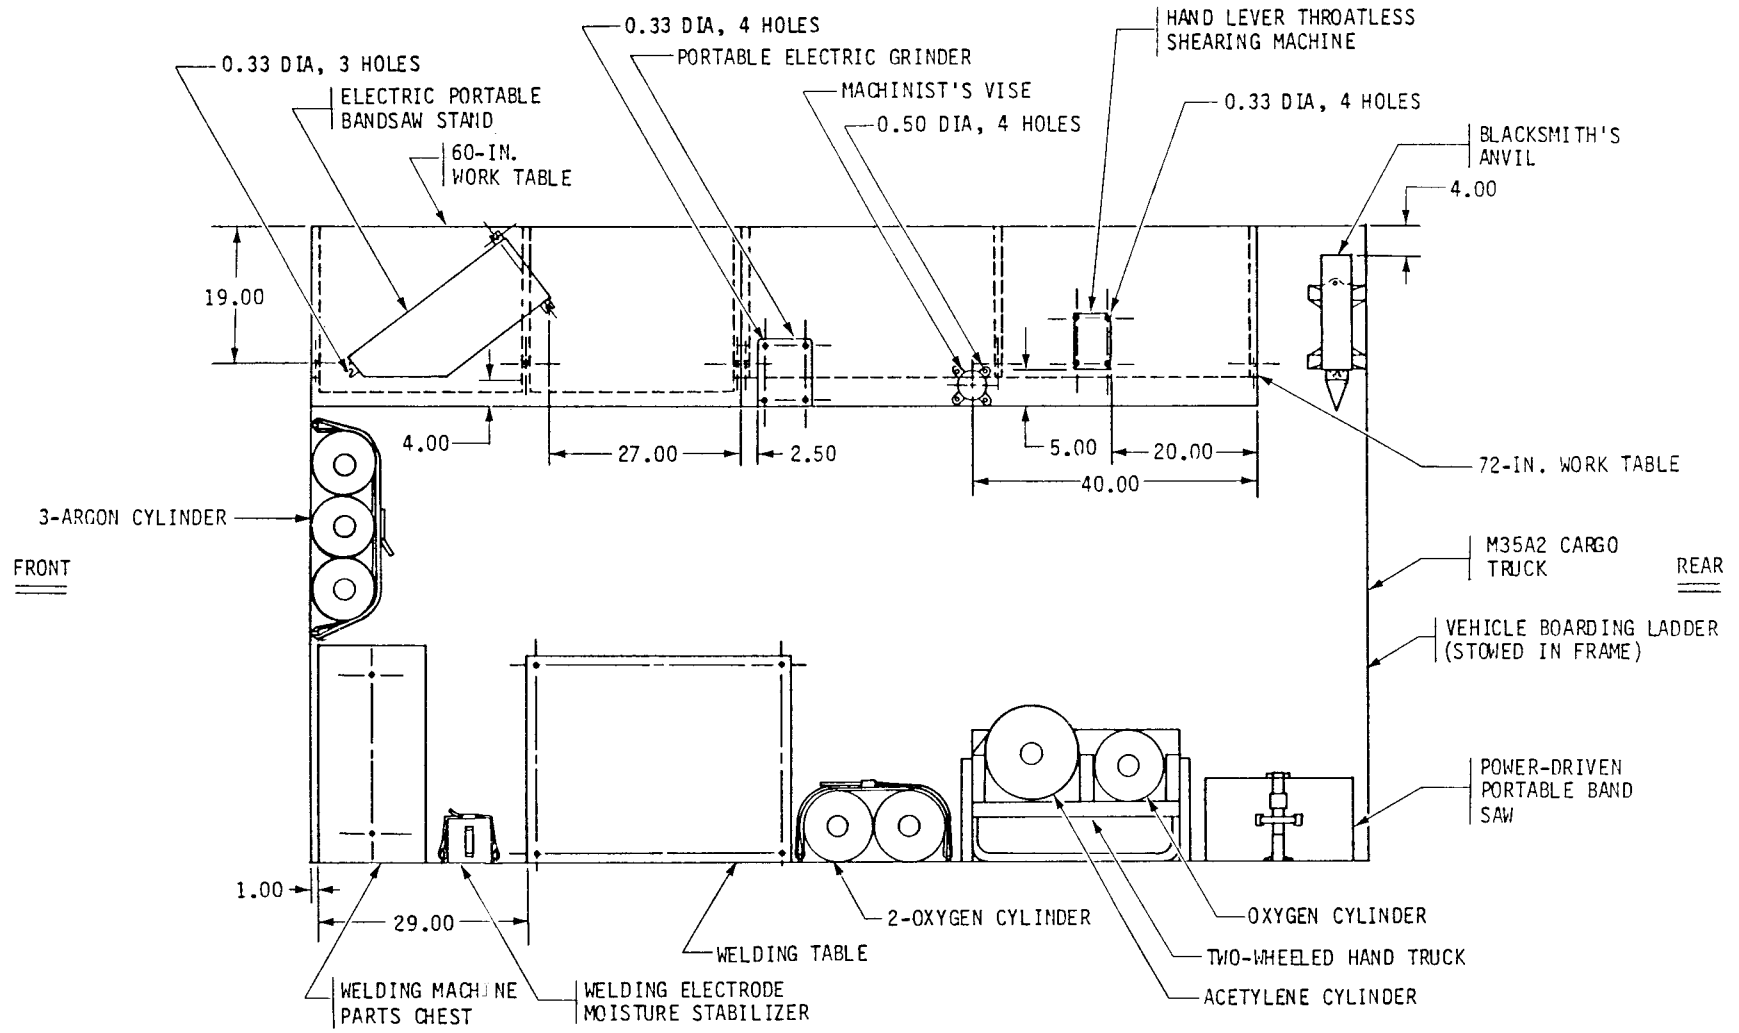
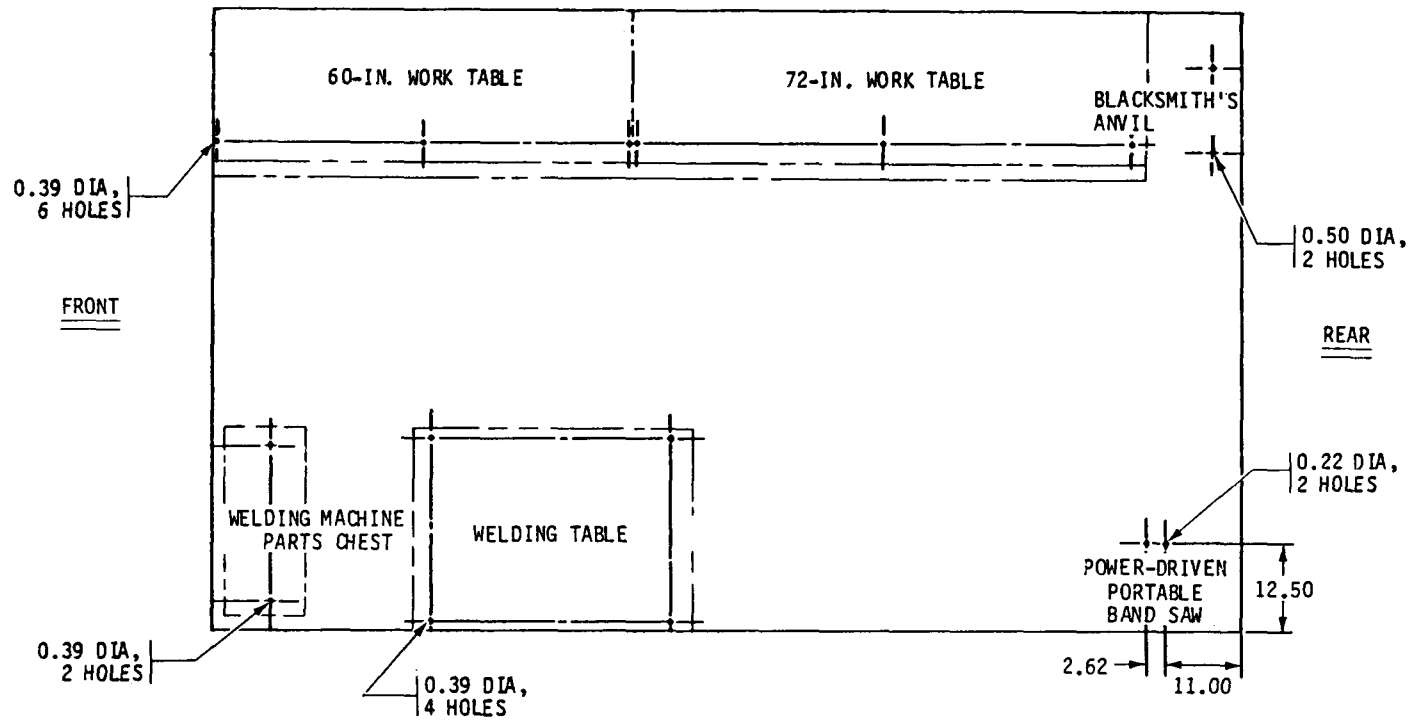
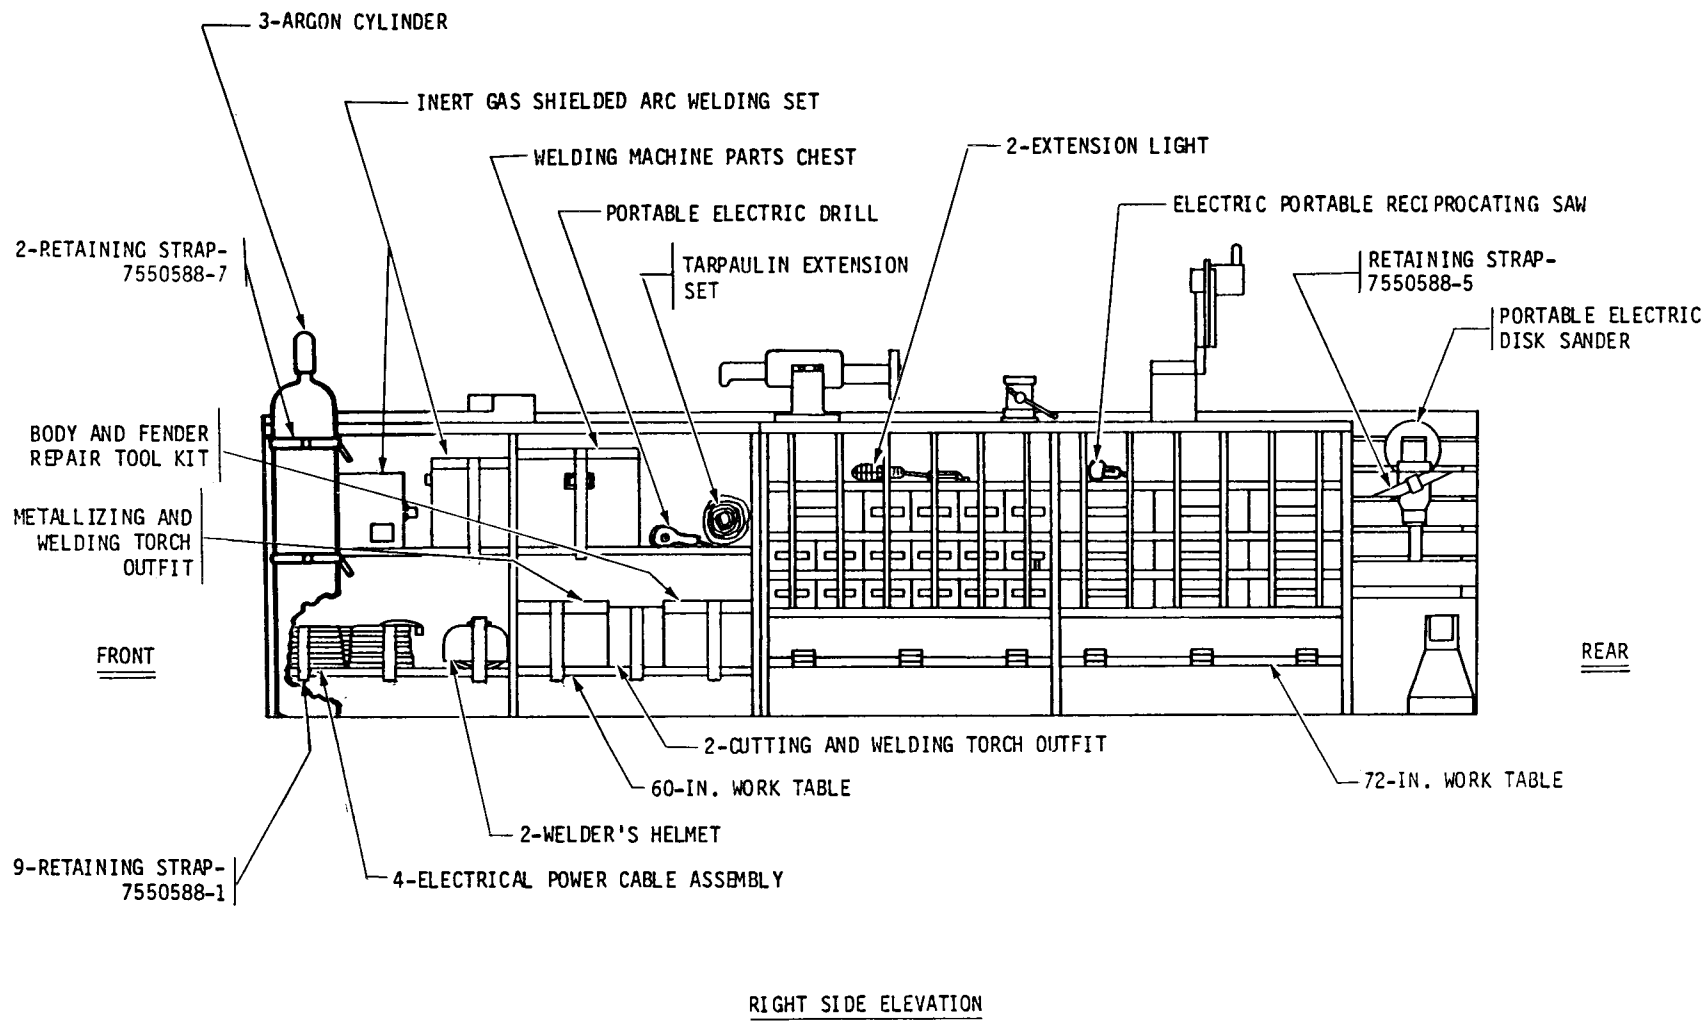
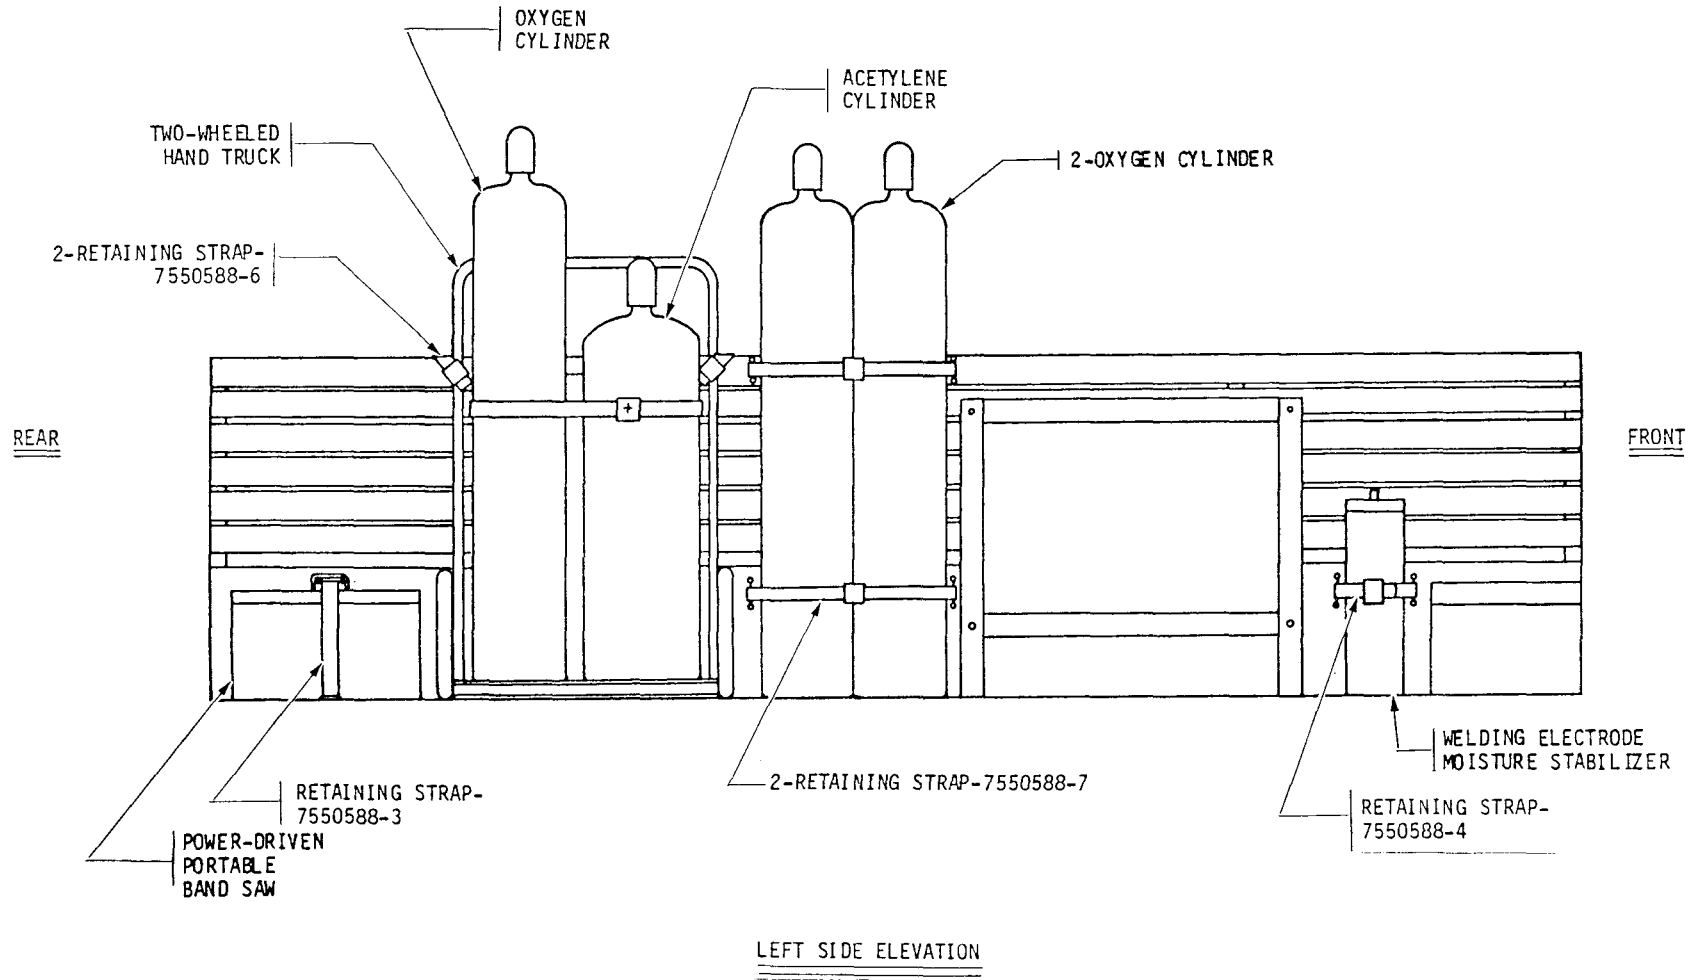

Figure 2. Components to be Mounted, Unit 1, M35A2, Floor Plan.
Figure 3. Hole Dimensions for Mounted Components and Strap Loops, Unit 1, M35A2, Floor Plan.
Figure 5. Components to be Stowed, Unit 1, M35A2, Right Side Elevation.
Figure 6. Components to be Mounted, Unit 1, M35A2, Left Side Elevation.
Blind hand riveter (5120-00-679-6523) is used for installation of blind rivet nuts in unit walls. Install blind rivet nuts in accordance with the manual supplied with the hand riveter. Position floor-mounted equipment, shown in figures 2 and 8. Use equipment mounting holes as template for location of drilled floor mounting holes in accordance with figures 3 and 9.
c. Drill two 0.22-in. diameter holes in floor in accordance with dimensions shown in figure 3, unit 1.
Follow steps (1) thru (18) below for equipment installation in unit 1. Refer to figures 2 and 3 for component locations and dimensions.
(1) Position 60-in. and 72-in. work tables (4910-00-543-7772 and 4910-00-543-7771) in accordance with figures 2 and 3. Mark and drill six 0.39-in. diameter holes through work table legs and truck floor on aisle side only in accordance with figure 3. Secure work tables to floor of truck using six 5/16- x 1-in. hex head capscrews (MS90725-34) and six 5/16-in. flat washers (MS27183-11); under truck floor use six 5/16-in. lockwashers (MS35338-45) and six 5/16-in. hex nuts (MS51967-5).
(2) Position welding table (3436-00-847-3772) in accordance with figures 2 and 3. Drill four 0.39-in. diameter holes through leg bases and truck floor. Secure welding table to floor, using four 3/8- x 1-3/8-in. hex head capscrews (MS90725-63) and four 3/8-in. flat washers (MS27183-13); under truck floor use four 3/8-in. lockwashers (MS35338-46) and four 3/8-in. hex nuts (MS51967-8).
(3) Position small parts box (8115-00-679-5594) in accordance with figures 2 and 3. Drill two 0.39-in. diameter holes through bottom center line of small parts box and floor. Secure small parts box to floor, using two 3/8- x 1-3/4-in. hex head capscrews (MS90725-65) and two 3/8-in. flat washers (MS90725-13); under truck floor, use two 3/8-in. lockwashers (MS35338-46) and two 3/8-in. hex nuts (MS51967-8).
(4) Secure case for power-driven portable band saw (5130-00-903-2510) to
floor (fig. 2), using a 48-in. retaining strap (7550588-3) in accordance with figure 6.
(5) Secure welding electrode moisture stabilizer (3439-00-440-0090) to wall (fig. 2), using a 36-in. retaining strap (7550588-4) in accordance with figure 6.
(6) Secure two oxygen cylinders (8120-00-151-9758) to wall of truck (fig. 2), using two 92-in. retaining straps (7550588-7) in accordance with figure 6.
(7) Position two-wheeled hand truck (3920-00-272-7732), containing one acetylene cylinder (8120-00-268-3360) and one oxygen cylinder (8120-00-151-9758) in accordance with figure 2. Secure tie-wheeled hand truck to wooden truck slats, using two 12-in. retaining straps (7550588-6) (fig. 6).
(8) Position blacksmith's anvil (5120-00-180-2885) in accordance with figure 2. Using base as template, mark and drill two 0.50-in. diameter holes through floor (fig. 3). Secure blacksmith's anvil to floor, using two 1/2- x 3-1/4-in. hex head capscrews (MS90725-120) and two 1/2-in. flat washers (MS27183-17); under truck floor use two 1/2-in. lockwashers (MS35338-48) and two 1/2-in. hex nuts (MS51967-14).
(9) Position electric portable bandsaw stand (5130-00-134-4535) on tabletop (60-in. work table) in accordance with figure 2. Using base as template, mark and drill three 0.33-in. diameter holes through tabletop. Secure electric portable bandsaw stand to tabletop, using three 5/16- x 2-1/4-in. hex head capscrews (MS90725-41), three 5/16-in. flat washers (MS27183-11), three 5/16-in. lockwashers (MS35338-45), and three 5/16-in. hex nuts (MS51967-5).
(10) Position portable electric grinder (5130-00-293-2488) on tabletop (72-in. work table) in accordance with
figure 2. Using base as template, mark and drill four 0.33-in. diameter holes through tabletop. Secure portable electric grinder to table top, using four 5/16- x 2-1/4-in. hex head capscrews (MS90725-41), four 5/16-in. flat washers (MS27183-11), four 5/16-in. lockwashers (MS35338-45), and four 5/16-in. hex nuts (MS51967-5).
(11) Position machinist's vise (5120-00-293-1439) on table top (72-in. work table) in accordance with figure 2. Using base as template, mark and drill four 0.50-in. diameter holes through tabletop. Secure machinist's vise to tabletop, using four 1/2- x 3-1/4 in. hex head capscrews (MS90725-120), four 1/2-in. flat washers (MS27183-17), four 1/2-in. lockwashers (MS35338-48), and four 1/2-in. hex nuts (MS51967-14).
(12) Position hand lever throatless shearing machine (3445-00-244-4527) on tabletop (72-in. work table) in accordance with figure 2. Using base as template, mark and drill four 0.33-in. diameter holes through tabletop. Secure hand lever throatless shearing machine to tabletop, using four 5/16- x 2-1/4-in. hex head capscrews (MS90725-41), four 5/16-in. flat washers (MS27183-11), four 5/16-in. lockwashers (MS35338-45), and four 5/16-in. hex nuts (MS51967-5).
(13) Stow welding torch outfit (3431-00-691-1415) and small parts box (8115-00-679-5594) on upper shelf of 60-in. work table and secure with three 92-in. retaining straps (7550588-7) (fig. 5).
(14) Stow portable electric drill (5130-00-889-9004) and tarpaulin extension set (2540-00-449-7180) on upper shelf of 60-in. work table and stow two extension lights (6230-00-729-9259), and electric portable reciprocating saw (5130-00-720-0654) on upper shelf of 72-in. work (table (fig. 5).
(15) Stow portable electric disk sander (5130-00-857-8526) on truck slats and secure with a 24-in. retaining strap (7550588-5) (fig. 5).
(16) Stow two welder's helmets (4240-00-540-0623), four electrical power cable assemblies (6150-00-682-3460), metallizing and welding torch outfit (3433-00-880-0512), body and fender repair tool kit (5180-00-357-7731), and two cutting and welding torch outfits (3433-00-357-6311) on bottom shelf of 60-in. work table and secure with six 92-in. retaining straps (7550588-7) (fig. 5).
(17) Vehicle boarding ladder (2540-00-641-0187) is stowed in M35A2 cargo truck frame.
(18) Position three argon cylinders (8120-00-357-7992) against front wall in accordance with figures 2 and 5. Secure argon cylinders to front truck slats using two 92-in. retaining straps (7550588-7).